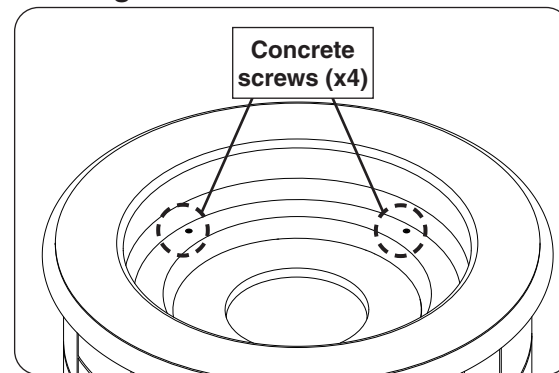

Fig. 27-4 Remove concrete screws
1. Remove the 4 concrete screws from the refractory panel (see Fig. 27-4).